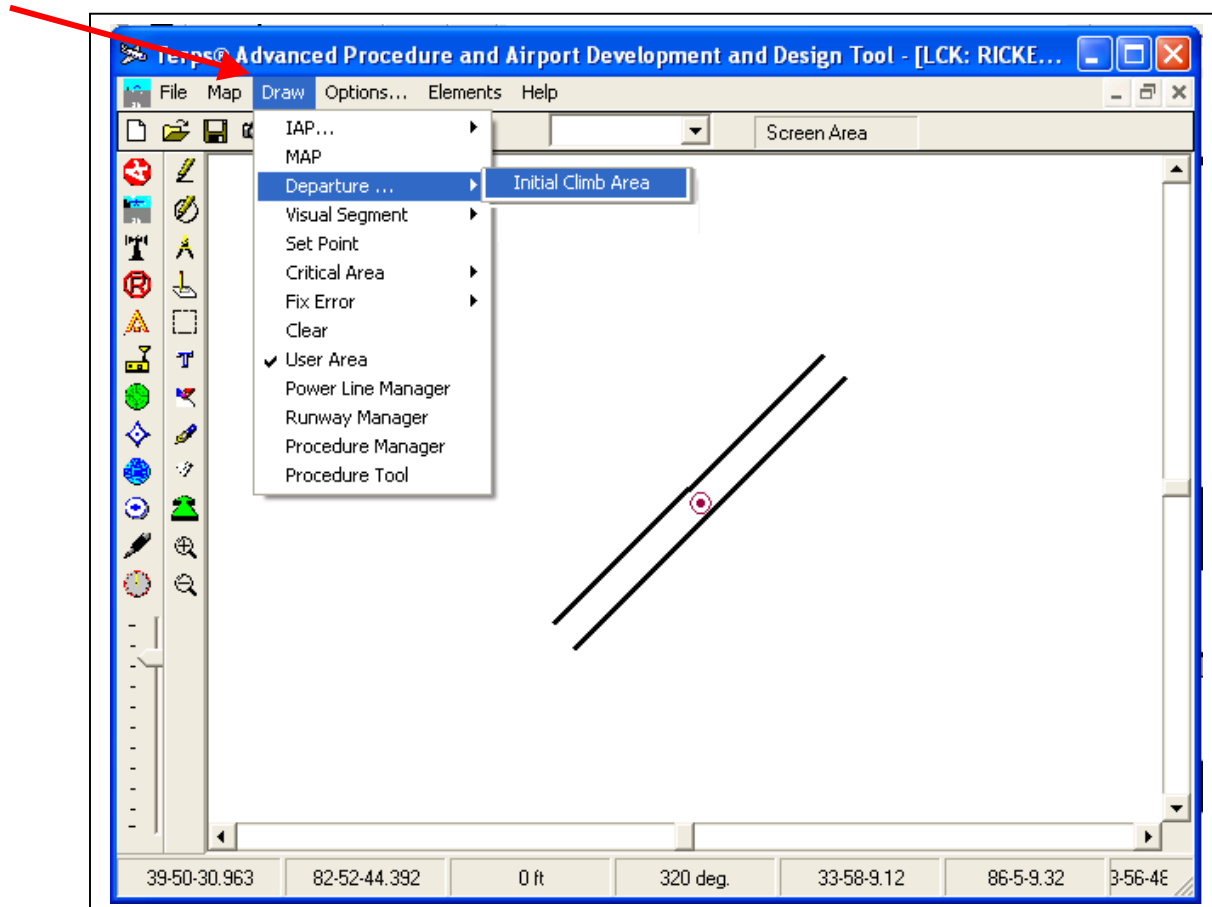

Figure 8-2: Draw Departure Procedure
2. Select the **Draw** Menu from the tool bar at the top of screen (See Figure 8-2: Draw Departure Procedure).